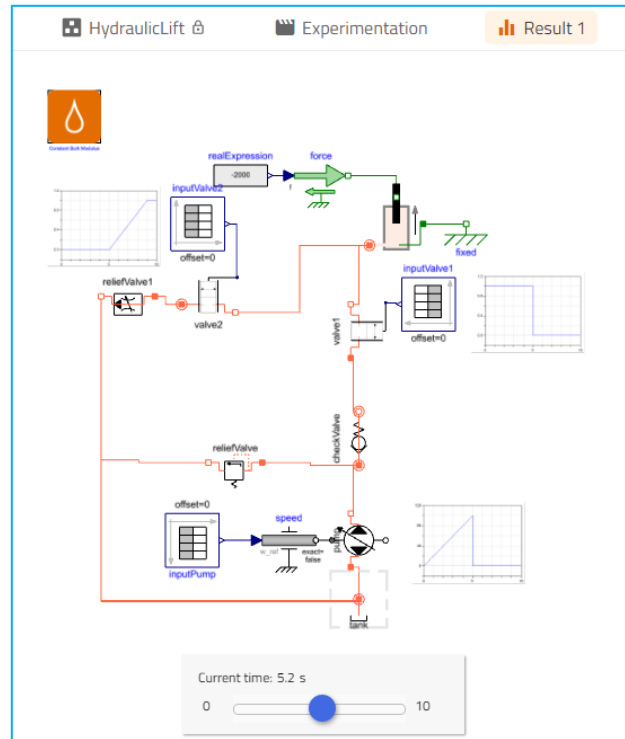

Figure 7 Animate model
11. To visualize the 2D animation of the Hydraulic lift, slide the time slider, located at the bottom of the screen, and check the model behavior from 0 sec to 10 sec. The 2000N (approx. 200kg) load on the plunger cylinder is initially lifted as the pump speed is ramped up to 100 rad/s during the first 5 seconds. valve1 will then cut the flow to the cylinder and valve2 will then open slowly to let the oil out to the tank as shown in Figure 7.